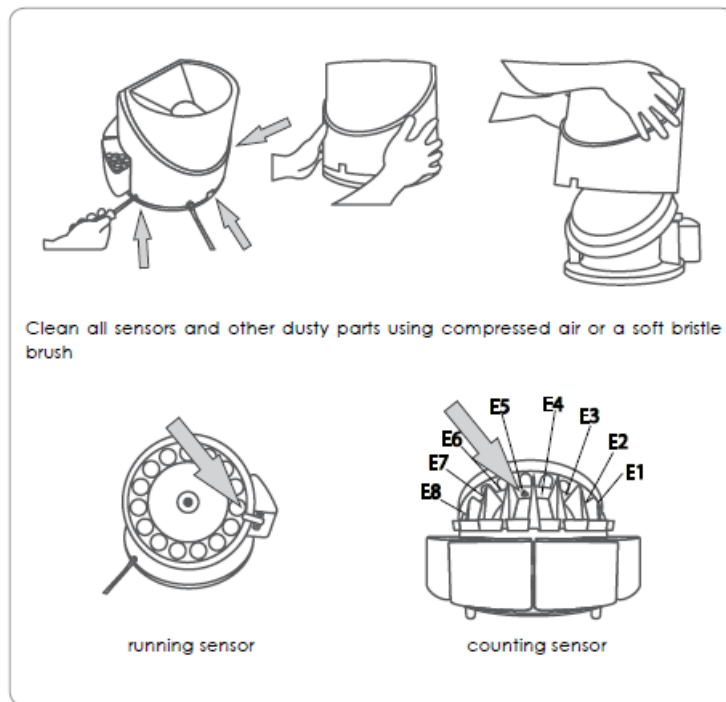

Figure 6 - Sensor locations
2. Clean all sensors and other dusty parts using a Cassida air duster followed by a CleanPro swab. See Figure 6 for sensor locations.